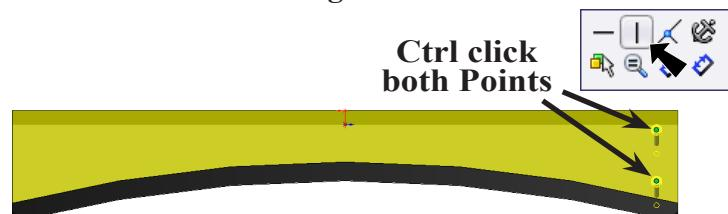

Fig. 28
Step 5. Ctrl click both Points to select both. Release Ctrl key and click Make Vertical  on the Content menu, Fig. 28.